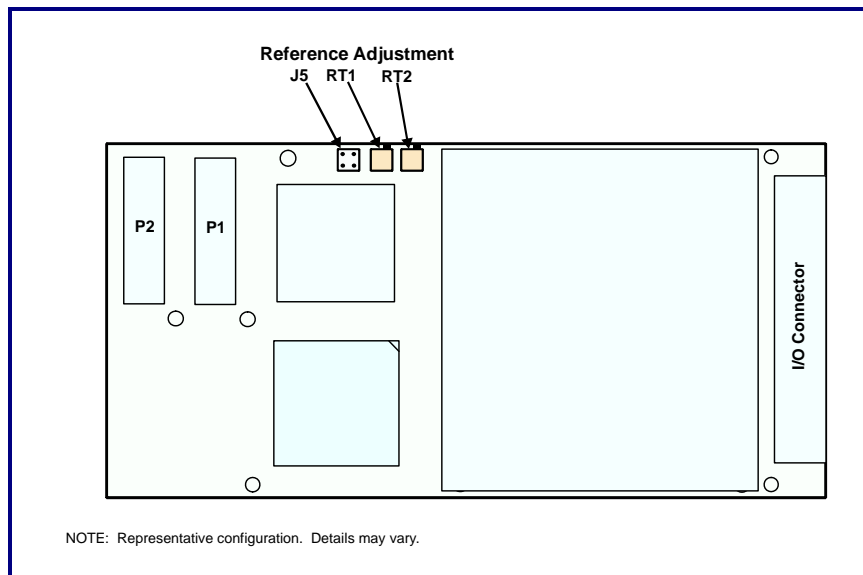

Figure 2.5-1. Reference Adjustment Access
The following procedure describes the verification of the two internal range references. Adjustment of the references, if necessary, is performed with two internal trimmers, RT1 and RT2, which are located as shown in Figure 2.5-1.
1. Connect the digital multimeter between the VTEST HI(+) pin and the VTEST LO (-) pin in the system I/O connector (Table 2.2-1). Alternatively, use internal test connector J5 Pin-1(+) and J5 Pin-2(-) shown in Figure 2.5-1.
4. If the digital multimeter indicates a voltage that is outside the corresponding range listed in Table 2.5-2, then adjust trimmer RT1 (Figure 2.5-1) until the voltage is within the indicated tolerance range.